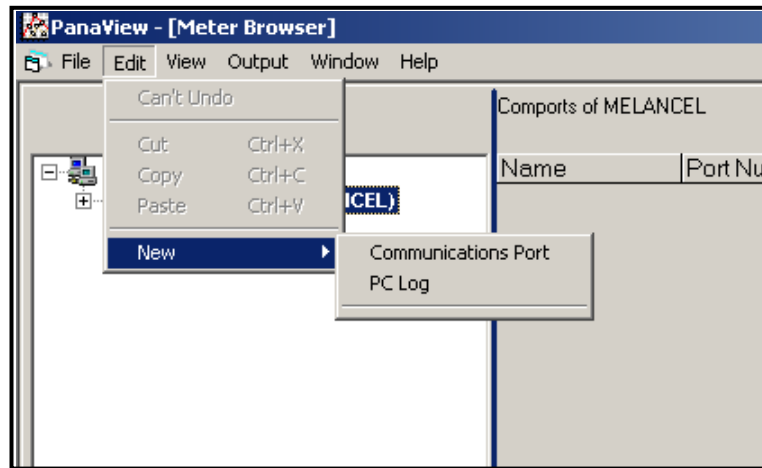

Figure 33: Edit Menu
4. Click on the *New* menu option to select it, and a submenu opens with two choices on it (see *Figure 33*).